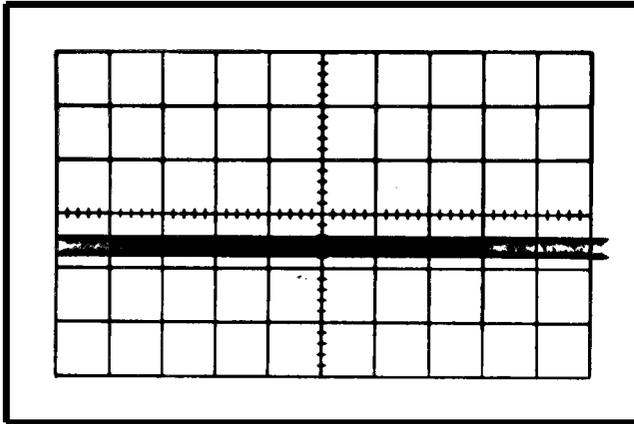

Fig. 6-26. Typical CRT display when checking common-mode rejection ratio.
e. CHECK-CRT display for 0.4 division deflection, or less (common-mode rejection ratio 20:1 or better; see Fig. 6-26).